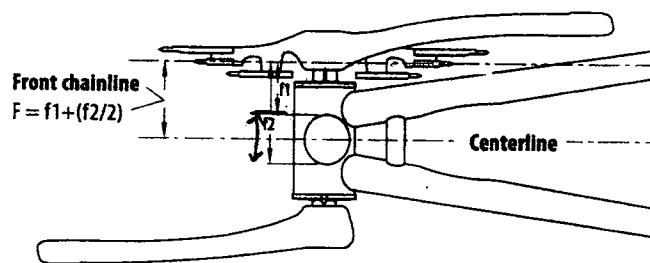

Fig. 14 - Measuring front chainline
Step 5 - Calculate the chainline of the system by measuring the distance from the middle chainring to the seat tube and add 1/2 the diameter of seat tube (see Figure 14).